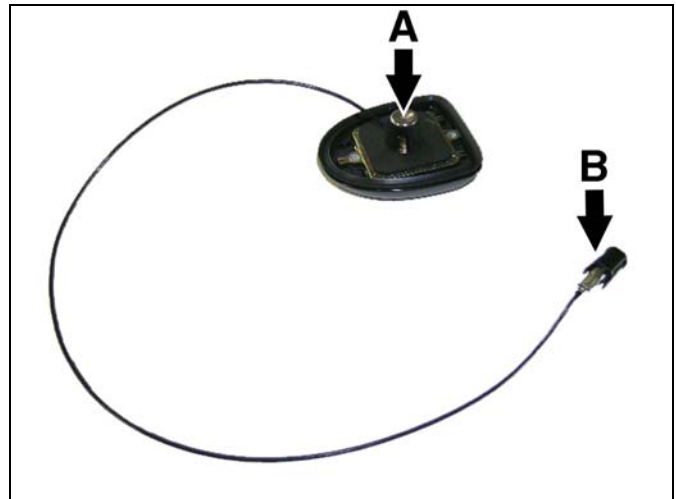

Figure 3
3. Loosen the T25 Torx screw (A, Figure 3) in the antenna sleeve.
4. Feed the antenna lead (B, Figure 3), from the topside of the trunk lid, through the 14 mm hole.
8. Tighten, but do not over tighten, the T25 Torx screw (A, Figure 3) in the SDARS antenna sleeve while holding the antenna from above to prevent it from turning.